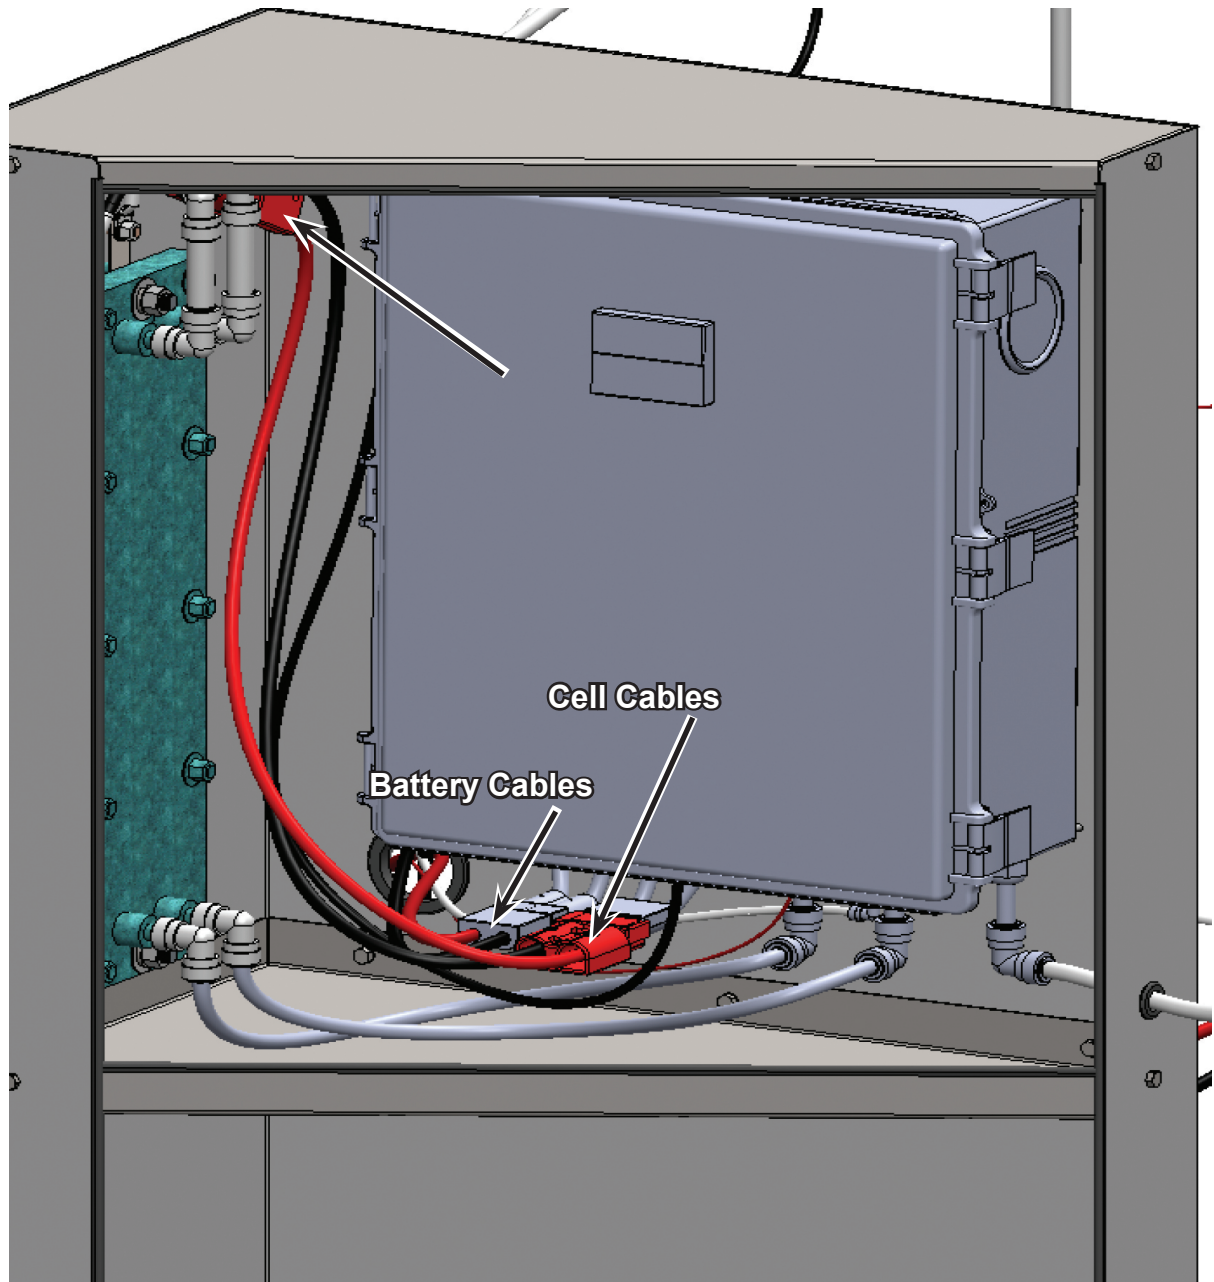
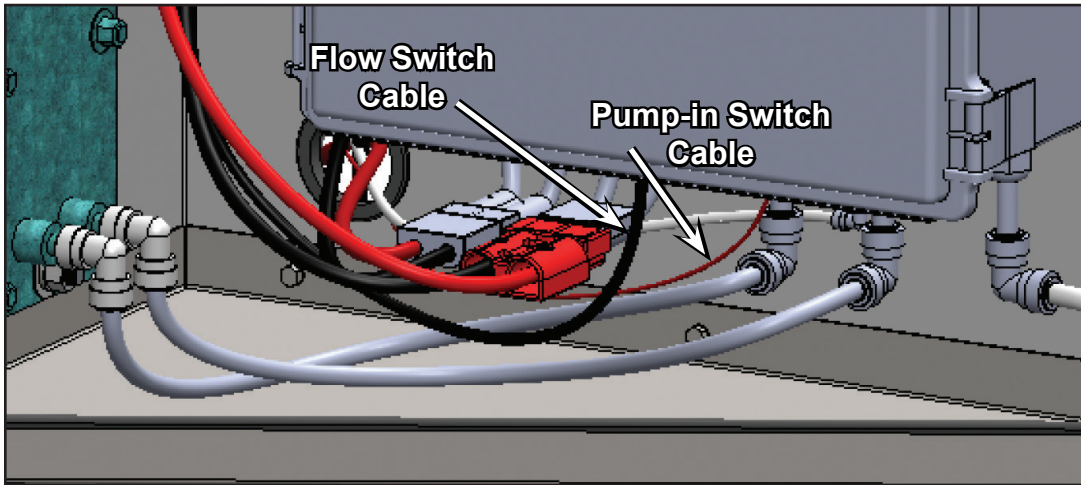

Figure 101. Locate Power Cables on Electrical Box
Figure 102. Connect Pump-In Switch Cable
1. Locate the gray connector at the bottom of the Electrical Box; route the CDS's battery cables through the back of the EWS Shelf and connect to the gray connector (see Figure 101).
2. Locate the Pump-In Switch cable on the bottom of the Electrical Box. Route through the rear of the EWS Shelf to the CDS pump-in switch and connect (see Figure 102).
3. Verify that the Cell cables are connected to the red connectors shown in Figure 101 and Figure 102.